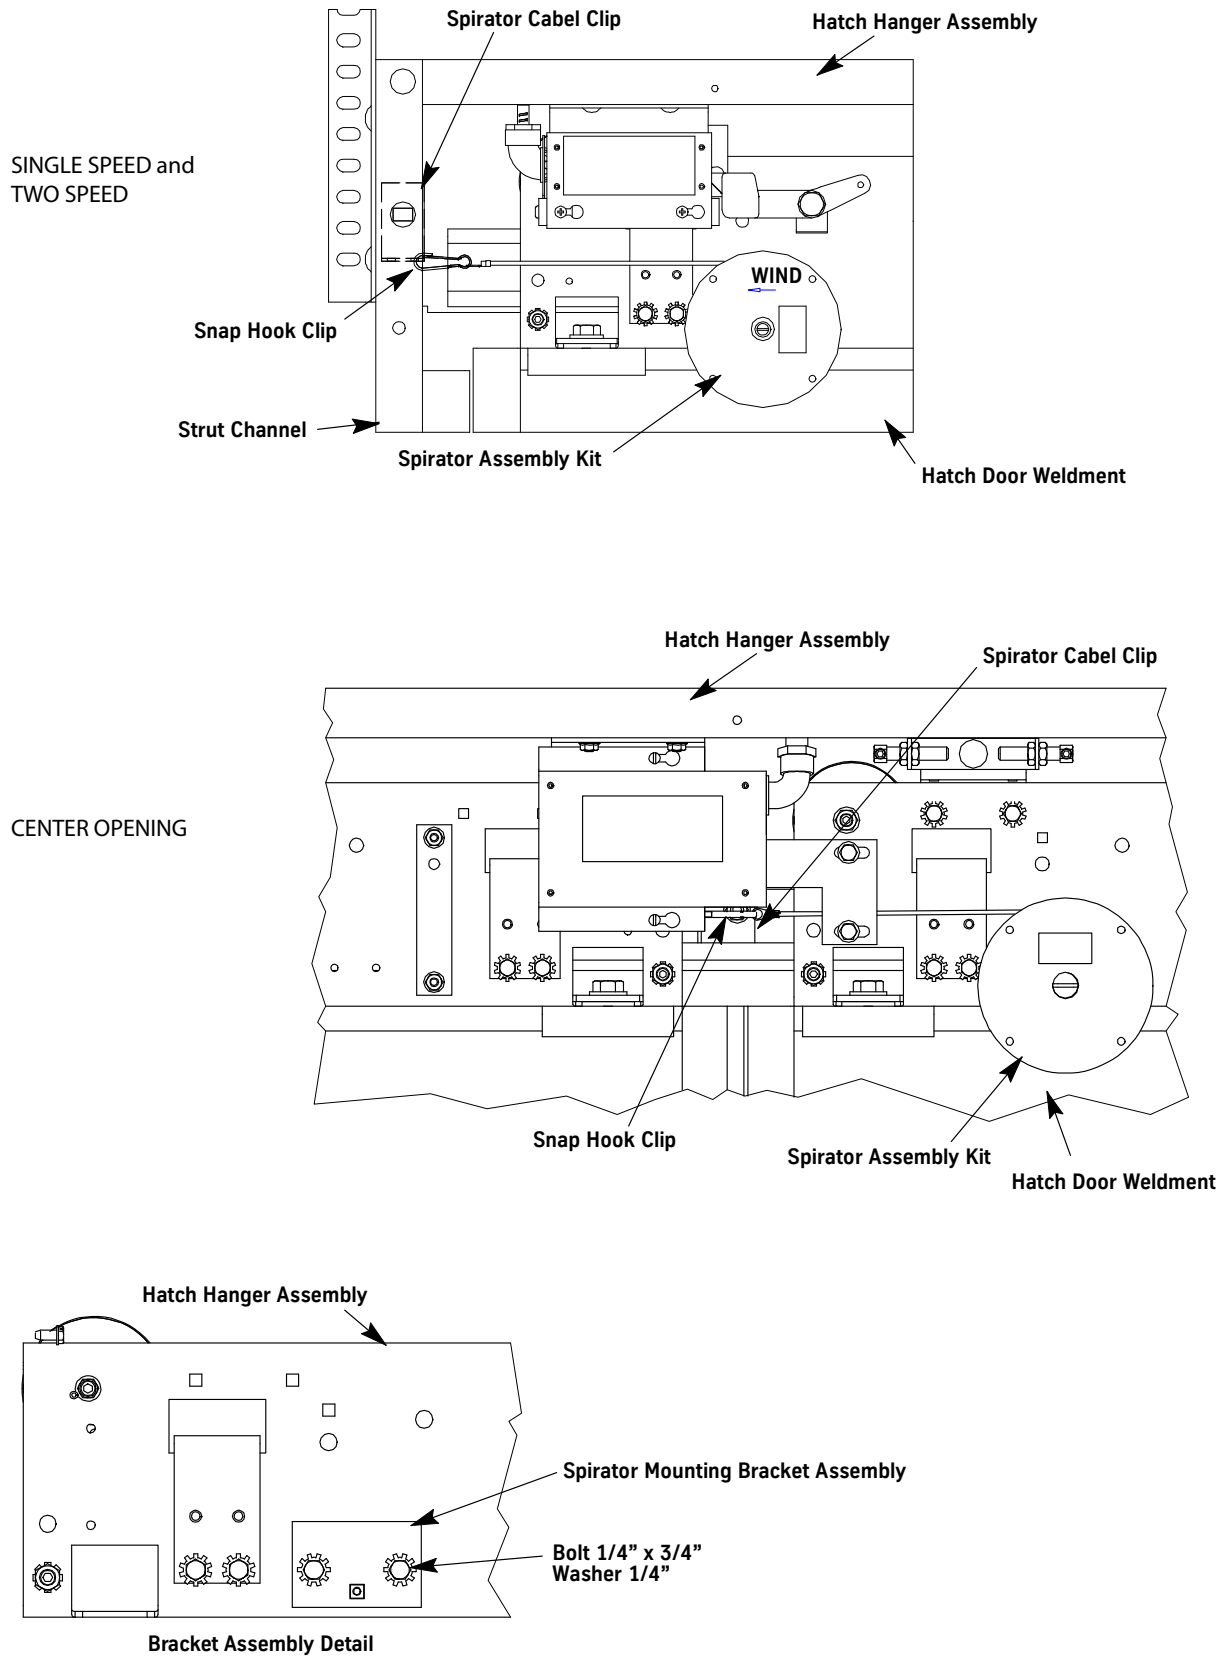

Figure 38 - Spirator Cable
14. Connect the spirator cable to the spirator cable clip. See Figure 38; or, if required, connect the sash weight to the closer cable.